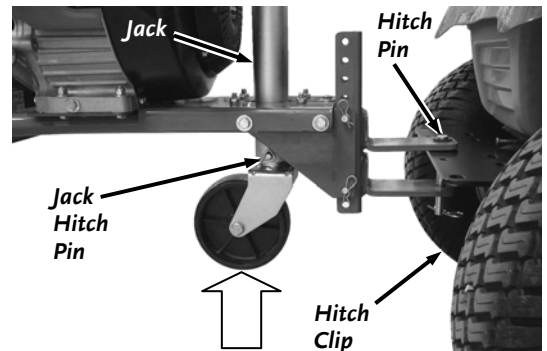

Figure 27
1. Make sure you firmly attach the DR LEAF and LAWN VACUUM Hitch to your Lawn Tractor using the Clevis Pin and Hitch Clip (**Figure 27**).